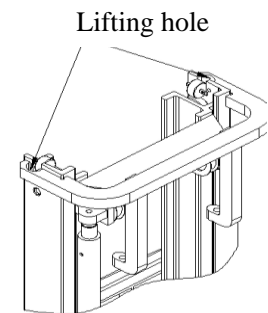

Figure 2-22
- (1) Figure 2-22 shows the lifting system